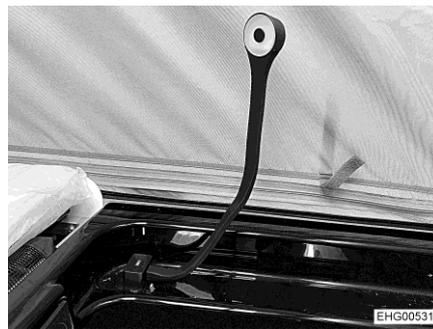
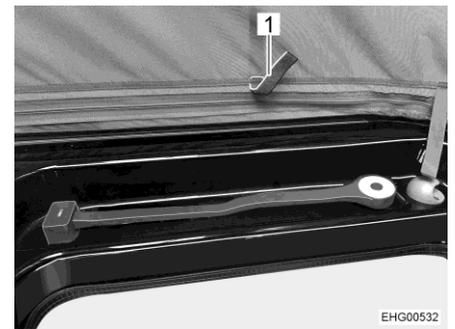

Fig. 44 Goose neck lamp, operating position
Fig. 45 Goose neck lamp, transport position
- Return goose neck lamp from operating position (Fig. 44) to transport position (Fig. 45).
- Pull in the canvas by the tabs (Fig. 45,1) provided for this purpose.